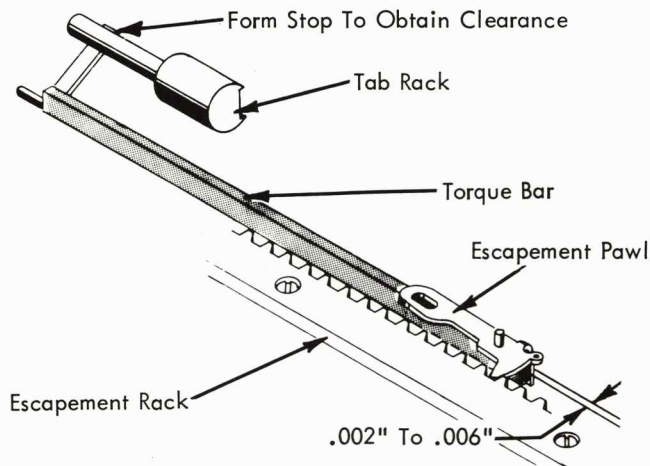

FIGURE 101. Torque Bar Stop
- b. Early - Form the torque bar stop located at the left end of the torque bar so that a clearance of .002" to .006" exists between the torque bar and the lug on the escapement pawl (Fig. 101).